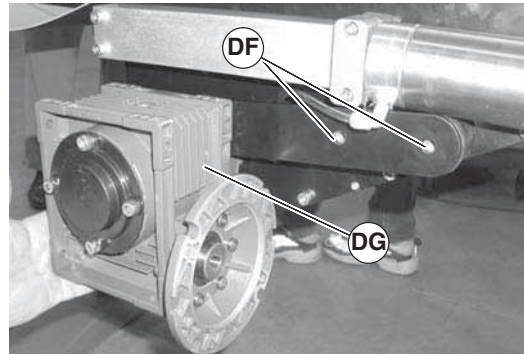

Figure 95
3. Remove screws (Figure 95, item DF) and remove gearmotor (DG) (Gearhead shown with motor removed for clarity, motor can remain attached to gearhead).